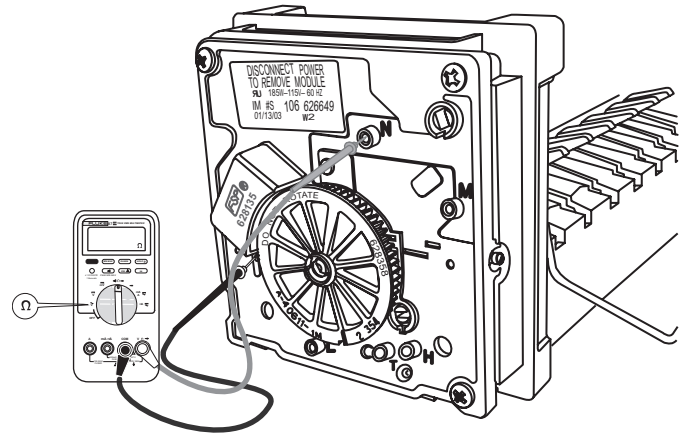

Figure 56. Checking solenoid resistance
- Set multimeter to Ohm scale, then connect probes to test points V and N. See Figure 56. The test probe tips must be 1/2 inch long to make full contact with internal terminals.